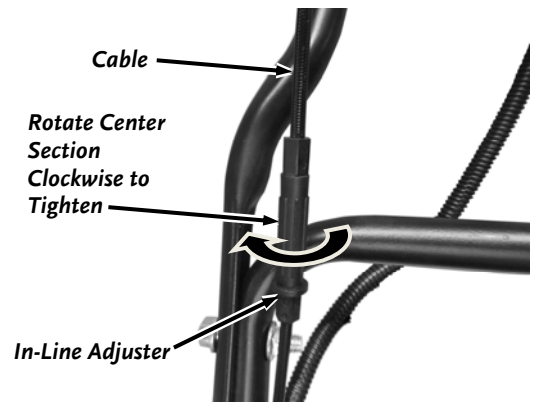

Figure 38
1. Locate the Traction Drive Cable on the Handlebar (**Figure 38**). There is an In-Line Adjuster to change the length of the Cable.